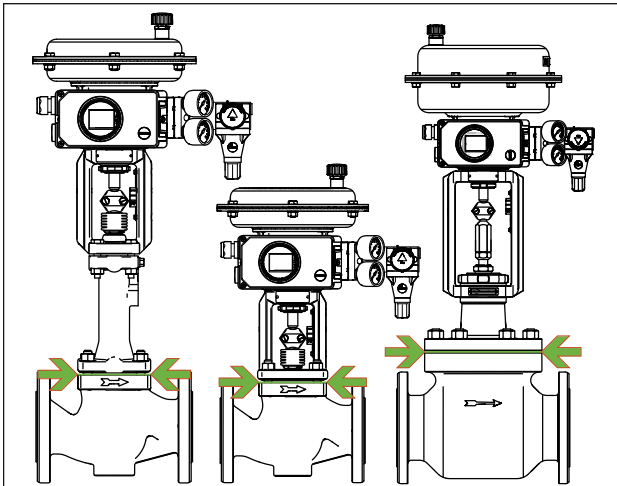

Fig. 19: Limit of insulation for control valves (example shown)
- ⇒ Only insulate control valves up to the bonnet flange of the valve body (see Fig. 19). This also applies to versions with bellows seal or insulating section at medium temperatures below 32 °F (0 °C) or above 428 °F (220 °C). If the insulating section is insulated, it will not function properly.